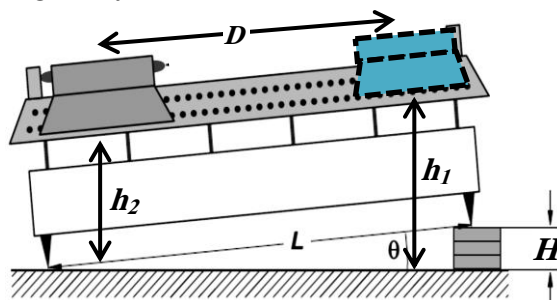

Figure 1: Air Track with dimensions.
Figure 1 shows a glider on an inclined frictionless plane (air track). Consider that the glider starts its motion from rest $v_i = 0$ where its height is h_1 , the change in its gravitational potential energy when its height is h_2 is:
Use the stopwatch to measure the time in seconds Δt required for the glider end to move from its starting position O to a definite position f , a distance D from the starting position as shown in **Figure 1**. The final velocity v_f , for this glider end, can be determined as follow (see the free falling exp. For more detail):
- 3- Adjust the distance D between the middle of the ruler and the photocell to be, say, **100 cm**. Then measure h_1 and h_2 at these positions Figure 1.